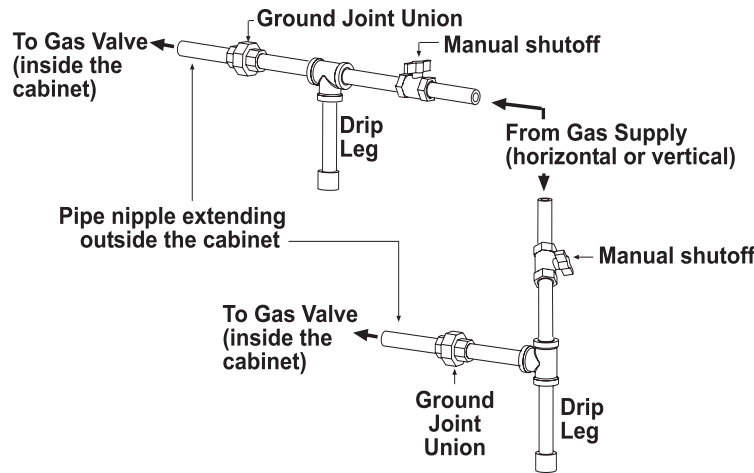

Figure 7. Gas Connections
- Install a ground joint union and manual shutoff valve upstream of the unit control system, as shown in **Figure 7**.
- The 1/8-inch plugged tapping in the manual shutoff valve in **Figure 7** provides connection for a supply line pressure test gauge.
- The *National Fuel Gas Code* requires the installation of a trap with a minimum 3-inch drip leg (see **Figure 7**). Local codes may require a drip leg longer than 3 inches (typically 6 inches). To permit burner removal, this drip leg must extend beyond the edge of the heater.
- The gas connection is made at the pipe nipple that extends outside the cabinet, as shown in **Figure 7**. Gas connection sizes are listed in **Table 9**.